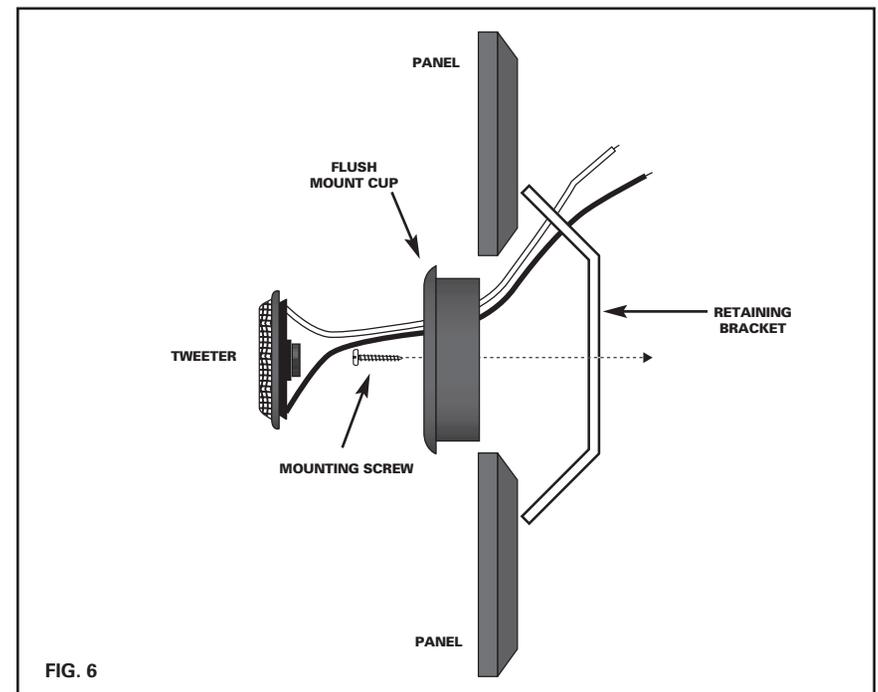

FIG. 6
- 3.) Assemble the cup, clamp and machine screws loosely as shown in [figure 6].